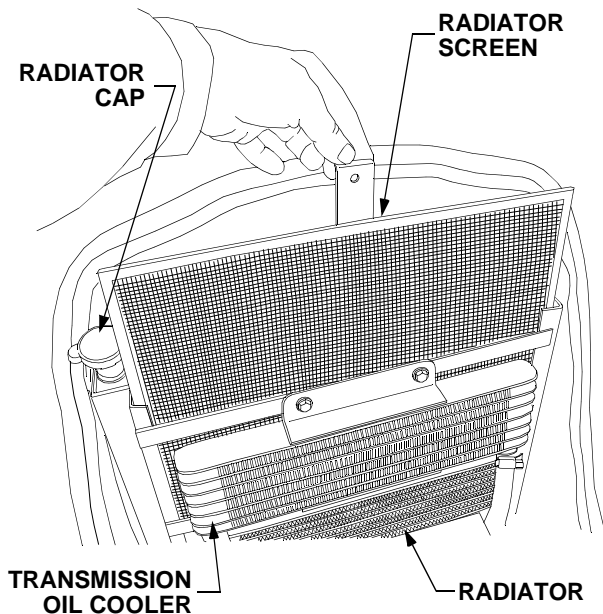

Figure 51
To remove the radiator screen, lift the hood and carefully lift screen by the center tab. Flush the screen with water to clean its surface. See Figure 51.
- Turn the radiator cap counterclockwise to the first stop to release any pressure. Refer to Figure 51.
- Turn the radiator cap counterclockwise to the first stop, then push downward on the cap and turn counterclockwise to remove. Refer to Figure 51.